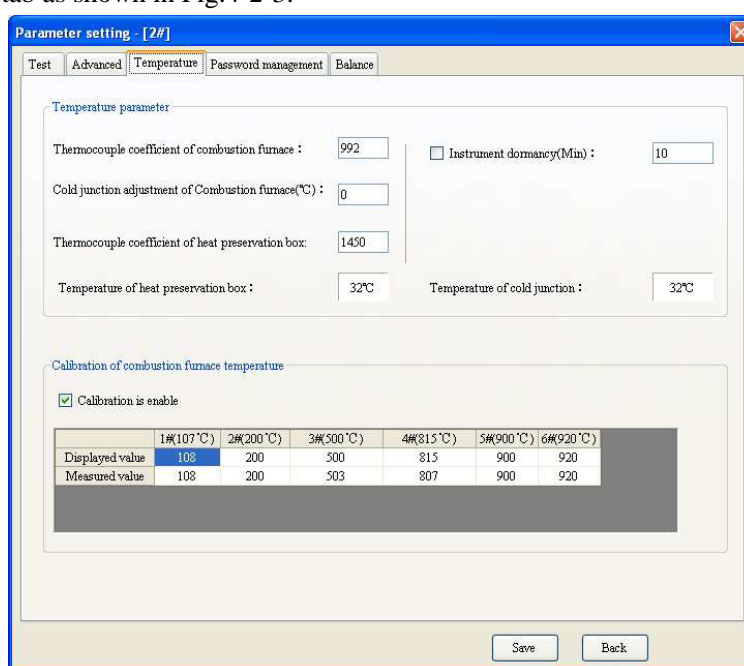

Fig.4-2-3
3. Temperature tab as shown in Fig.4-2-3: